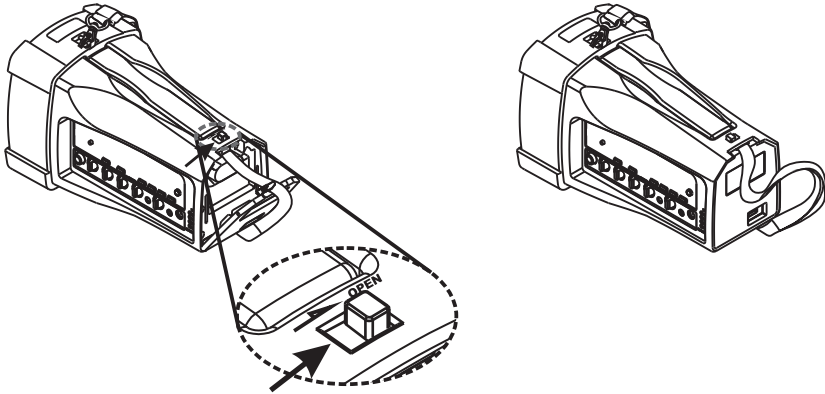

Fig. 35
- (F) Push latch to OPEN position with left hand and simultaneously replace the battery cover into place with right hand. Push latch to left to close and for a secured lock, Fig. 35.